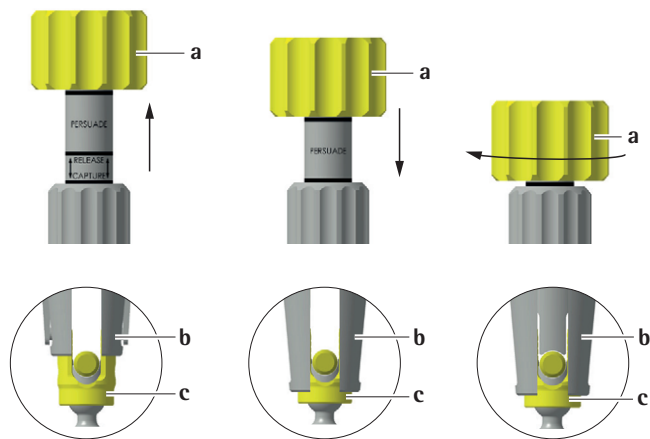

Fig. 32
The text and arrows on the instrument indicate the directions in which the knob can be moved to reach different positions, e.g. the release position is reached by pulling up the knob. The arrows do not point to the lines, see Fig. 32.
- Pull the golden knob **a** up to the third line as shown on the left side of the image, see Fig. 32.
- ▶ Attach the persuader to the screw head **c** by releasing the golden knob **d** down to the second line as shown at the center of the image, see Fig. 32.
- ▶ Persuade the rod by turning the golden knob **a** in the clockwise direction until the first line is reached as shown on the right side of the image, see Fig. 32.